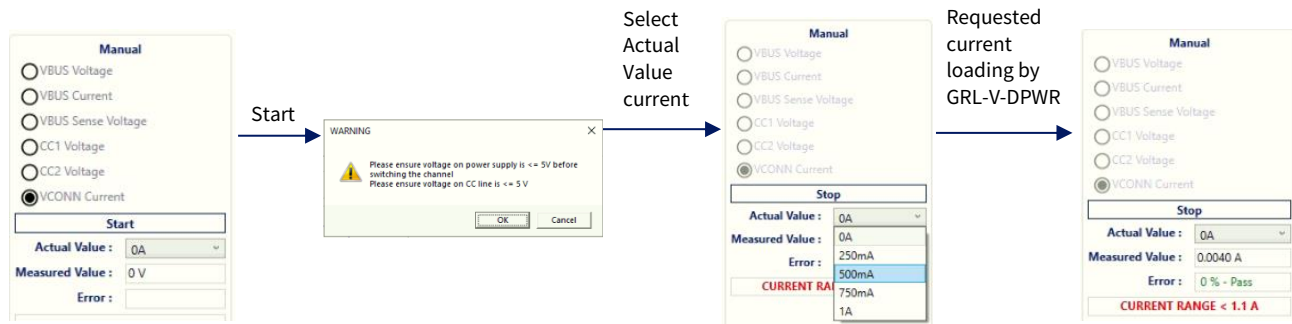

Figure 18.VCONN Current Measurement Channel Verification (Sink Mode)
2. See Figure 18 for the following procedure: